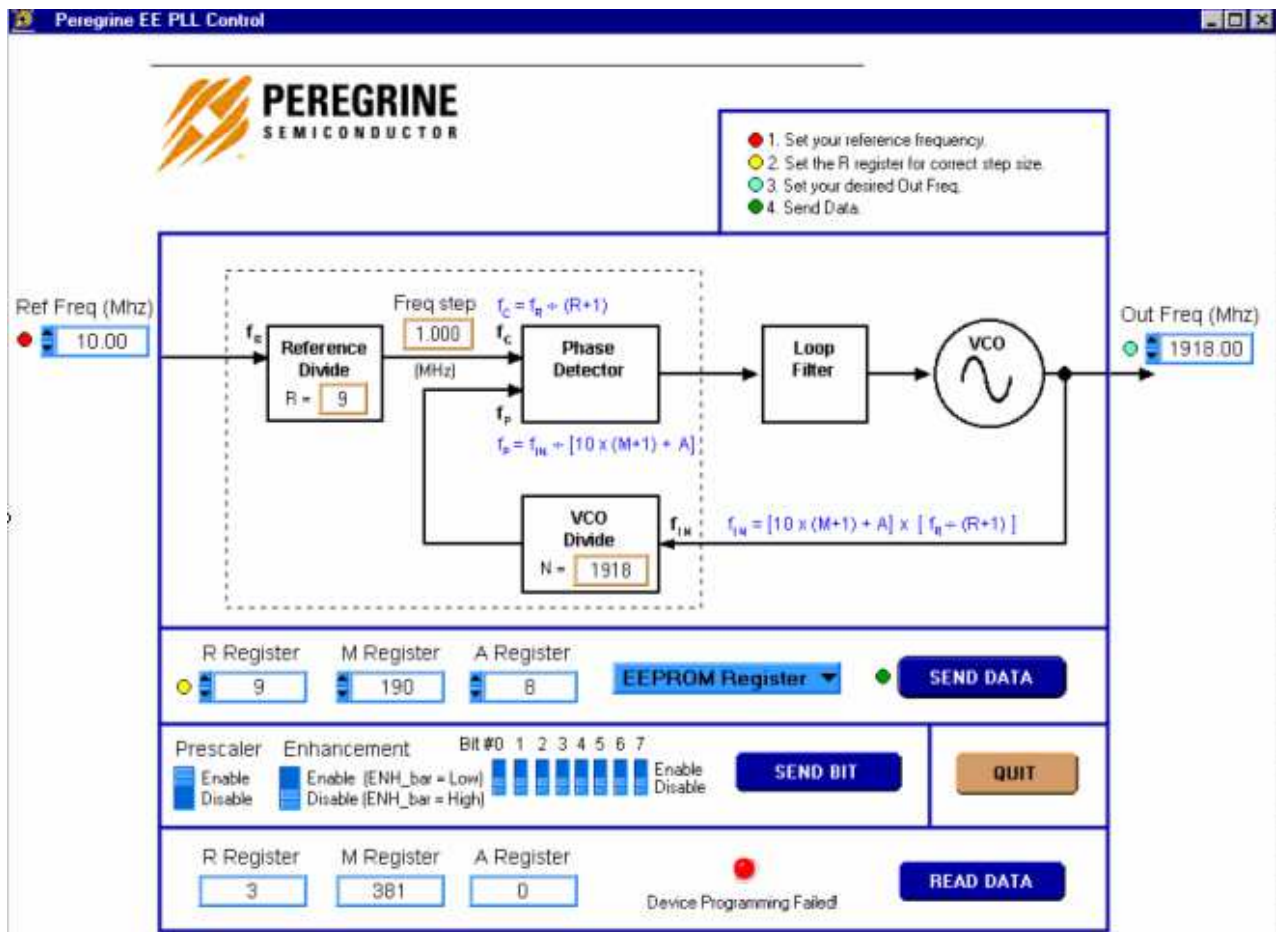

Figure 3. Example of EEPROM Programming Software Screen when the programming is failed.
Step 10: The program will automatically read back the R, M and A Register values and display them in the bottom section. If the EEPROM is programmed successfully, a message “Device Programmed Successfully!” with a green button will display in the bottom section as shown in Fig. 2. Otherwise, if any of the read back values is different from the programmed value, a message “Device Programming Failed!” with a red button will display as shown in Fig. 3. This feature can be